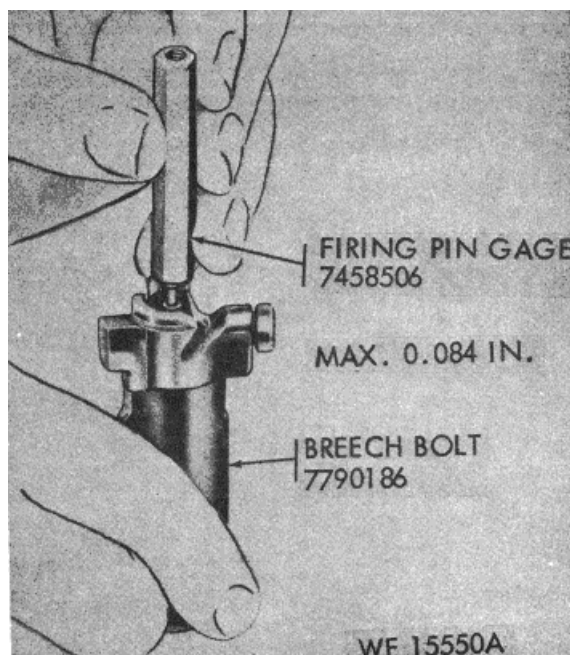

Figure 7-2. Checking diameter of firing pin hole.
c. Check the firing pin hole diameter for wear, using firing pin gage (fig 7-2). Refer to table 11-1 for maximum wear limits for serviceability.